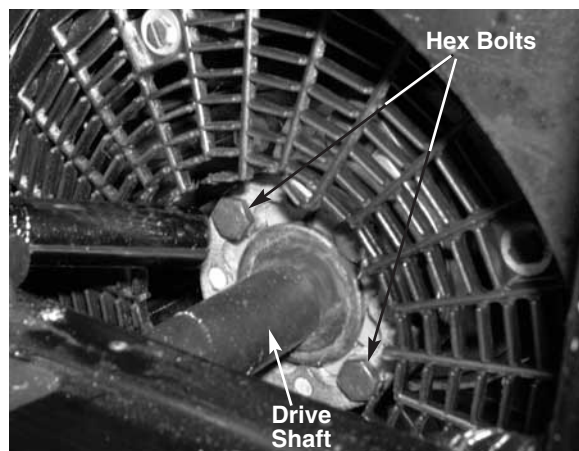

FIGURE 9.
21. Remove all four of the hex bolts securing the drive shaft to the engine flywheel using a 7/16 socket and extension. See figure 9.